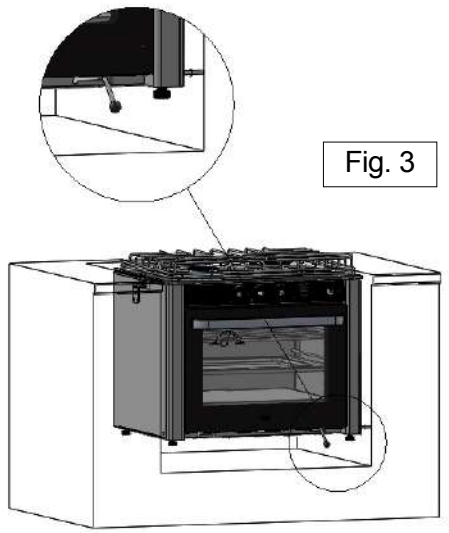

Fig. 3
- Make a \varnothing hole in the cabinet for housing the clasp adopted to block the oven, as indicated, see **Fig. 3**.